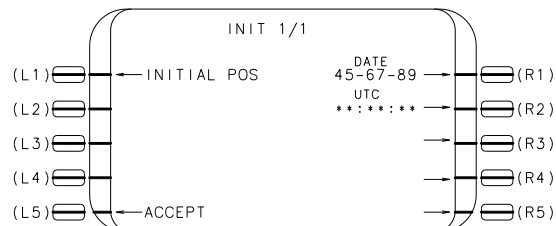

FIGURE 1
2. AFTER INITIALIZATION THE INIT 1/1 PAGE WILL APPEAR (REF FIGURE 1). PRESS THE DATE LINE SELECT KEY(LSK). TYPE 456789 AND PRESS ENTER. PRESS ACCEPT LSK.
12. AFTER THE CONFIGURATION MODULE UPDATES, THE FMS WILL REBOOT AND THE INIT PAGE WILL APPEAR (REF FIGURE 1).